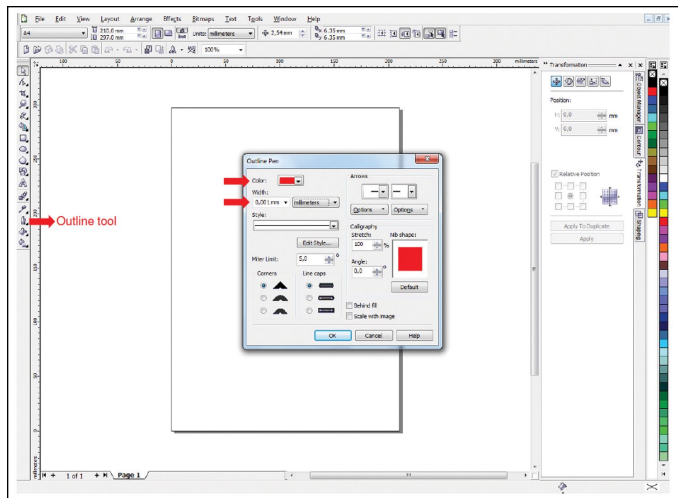

Figure 1: Settings for the cutting line of the outer contour
- Define the cutting line as a hairline or 0.003 point wide line in red, using the Outline tool in the “Outline pen” dialog box (see Figure 1).